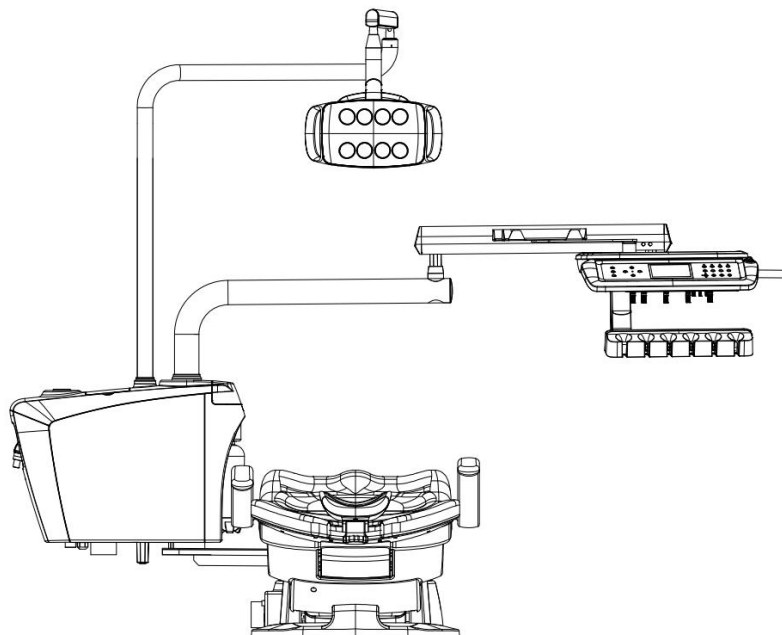

Figure 10 The rotatable box of the dental unit
3.4.2 The model is a rotatable case, the case can be rotated 90 degrees outwards, which is convenient for four-handed operation and after-sales maintenance. (refer to Figure 10)